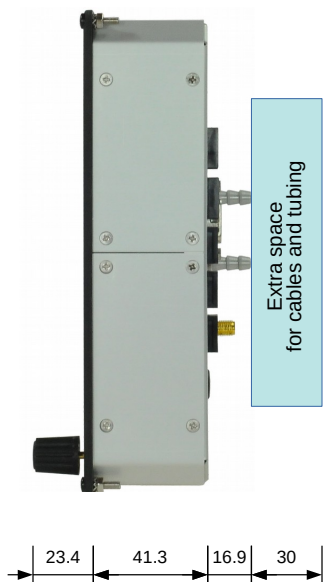
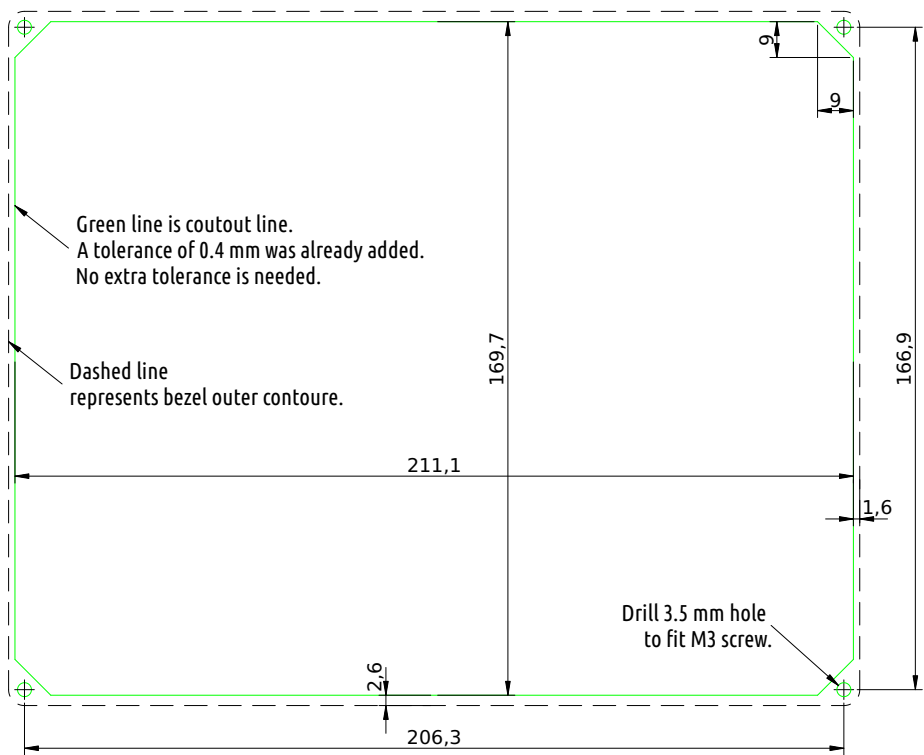

Figure 2.1: Nesis side view with dimensions.
Figure 2.4: Nesis cutout dimensions. The figure is not actual size!
- The display housing extends behind instrument panel and some extra space must also allocated for the connectors, cables and tubes. See Figure 2.1 for more details.
The display main dimensions are shown on Figures 2.1 – 2.3 and Figure 2.4 shows the cutout.
tolerance was already added to the green cutout line. Figure 2.4 illustrates the cutout dimension.